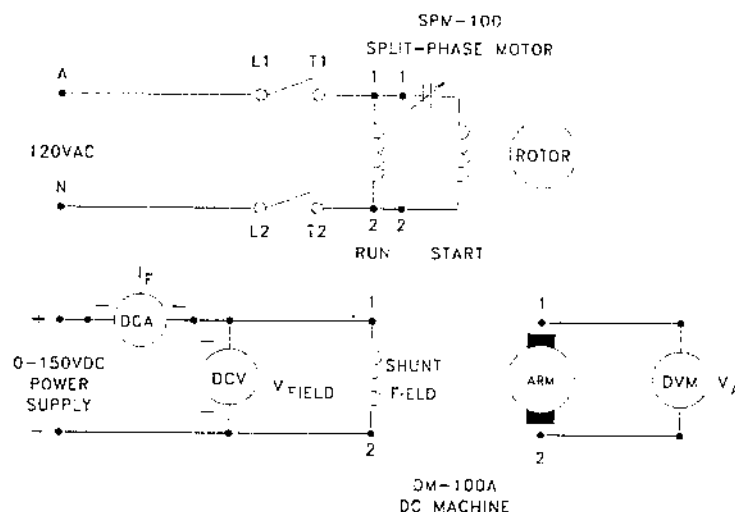

Figure 2-3
1. Connect the DC generator as a separately-excited generator as shown in Figure 2-3.